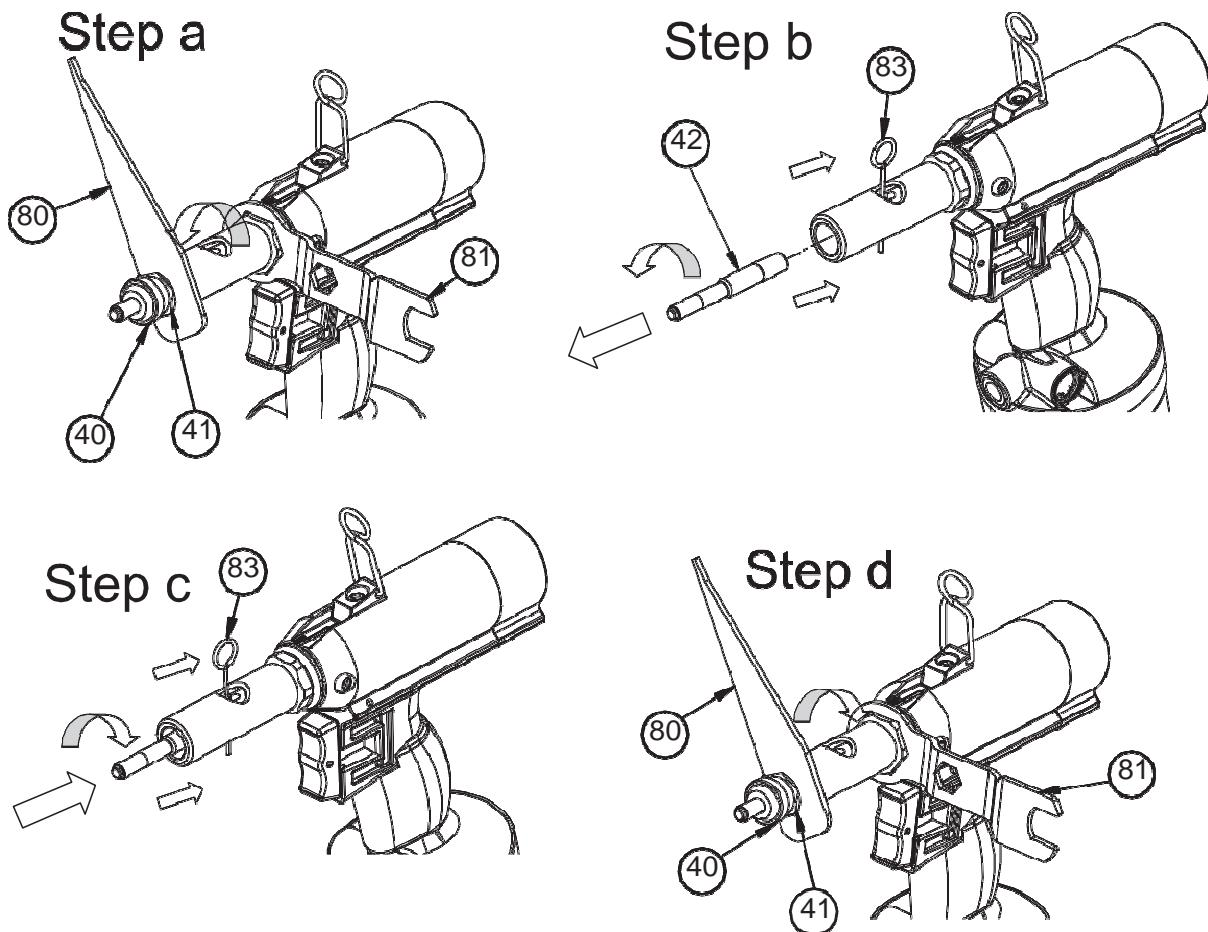
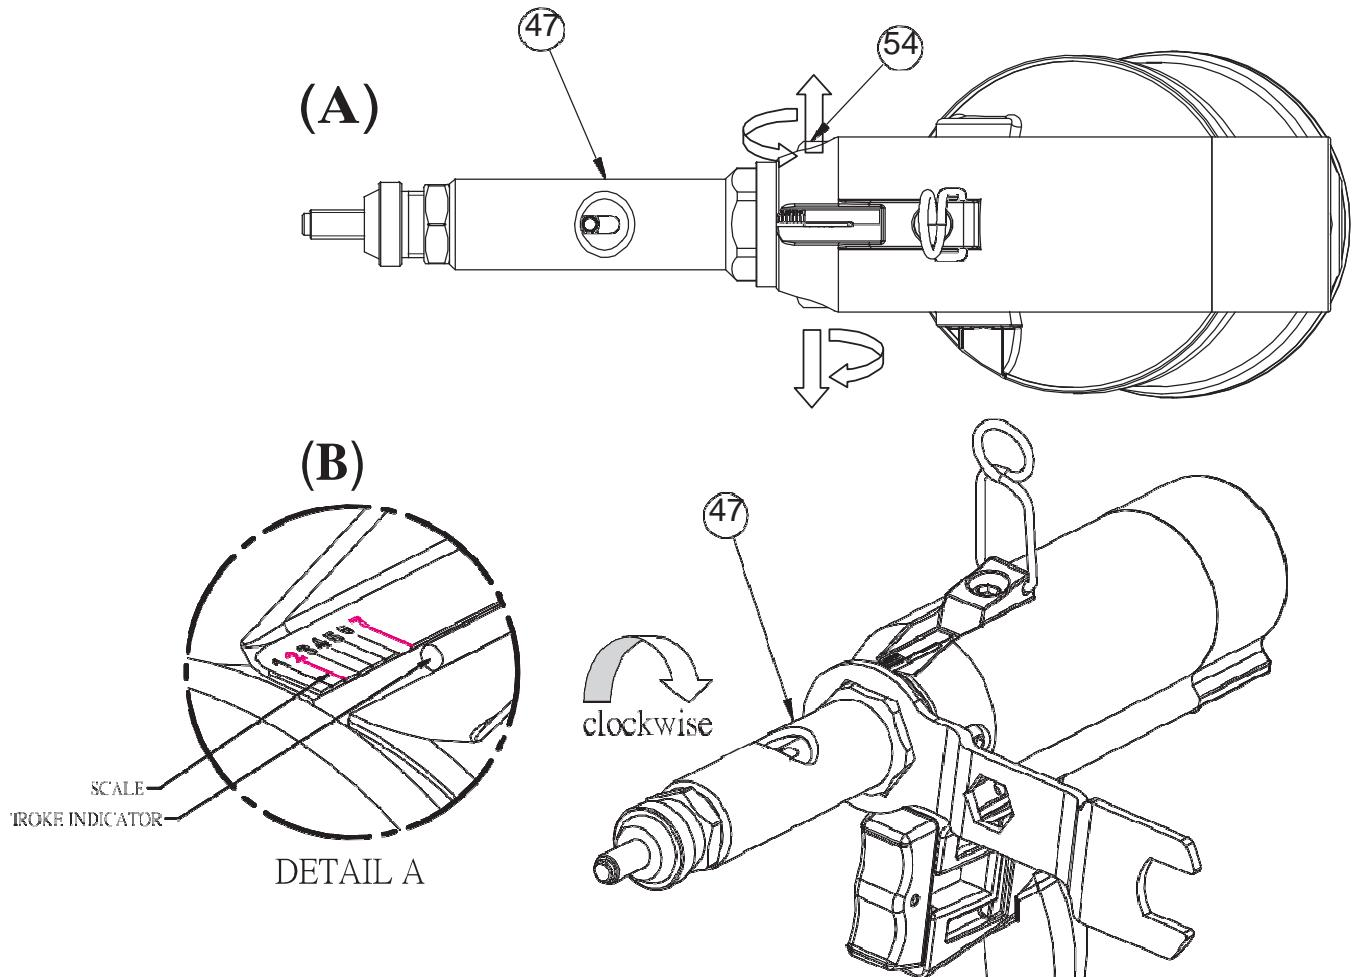

Fig. 2 Detail illustration of Anvil, Anvil Lock Nut, Tie-Rod, and Tie-Rod Screw Fixer.
Fig. 3 Detail illustration of Stroke Adjustment.
- a. Loosen the anvil lock nut (Index 41 in figs. 2 & 6) with the spanners (Index 80,81 in Figs. 2 & 6) , and remove the anvil (Index 40, 41 in Figs. 2 & 6) from the housing as shown in Fig. 3;
- b. Insert the eye lever supplied into to the tooling hole and apply a light pressure inwards, in order to parts from the tie-rod clutch. At the same time unscrew the tie rod (Index 42 in Figs. 2 & 6) and extract it;
- d. Then assemble the proper anvil and the anvil lock nut) Index 40,41 in Figs. 2 & 6), and tighten the lock nut with the spanners (Index 80,81 in Figs. 2 & 6).
- Loosen the nose piece (Index 47 in Figs. 3-(A) & 6) set screw first (Index 54 in Figs. 3-(A) & 6);
- Rotate the nose piece (Index 47 in Figs. 3-(A,B) & 6) to obtain the desired pull-up stroke. As shown in Figs. 3, the stroke of pull-up decreases with the stroke adjustment turning in the positive direction (clockwise) and vice versa.
- Adjust the nose piece follow the scale of sticker (Figs. 3-(B), every turn has adjust 1.5mm
- Fasten the nose piece's set screw (Index 54 in Figs. 3-(A) & 6).
- When use the rivnut under the size as M3,M4, M5, M6, 6-32UNC , 8-32UNC , 10-24UNC, must adjust No.57-1 part in Fig 3 & Fig 6 and limit the stroke as 2 mm and then try it, not allow directly using the maximum stroke of 7 mm to pulling it, to avoid the broken of pulling pole.